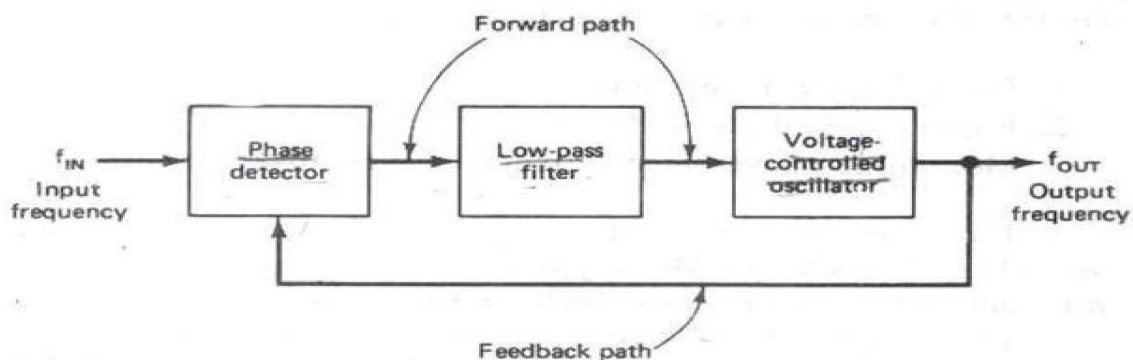

Fig 2.10 Block Diagram of Phase Locked Loop
Figure 2.10 shows the phase-locked loop (PLL) in its basic form. As illustrated in this figure, the phase-locked loop consists of (1) a phase detector, (2) a low-pass filter, and, (3) a voltage controlled oscillator